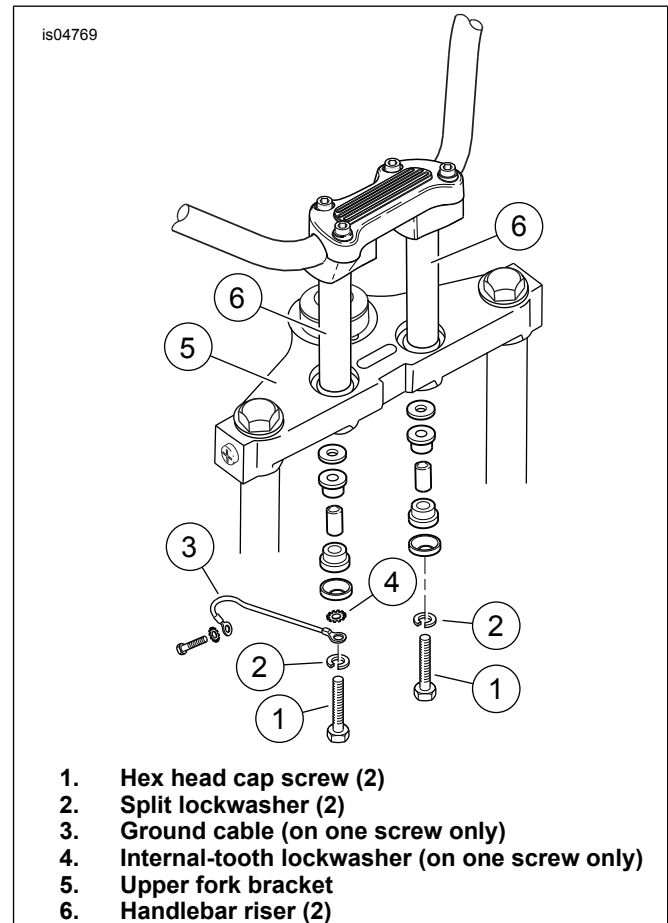

Figure 1. Handlebar Clamp Hardware (FXSTB Shown)
- See Figure 1. Remove and discard **one** of the hex head screws (1) and split lockwashers (2) that fasten the handlebar risers (6) to the upper fork bracket (5).
Retain any additional components that may have become dislodged from the riser when the screw was removed. Refer to Figure 1 for correct orientation and re-assembly sequence.